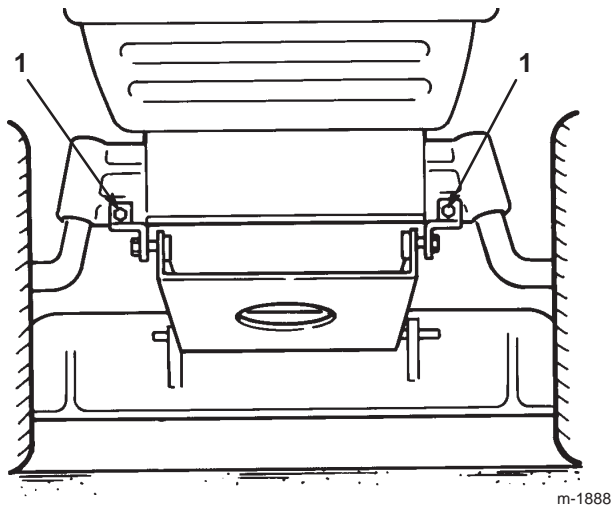

Figure 36
14. Pull the 2 mower pivot mount brackets down from the front axle (Fig. 36).